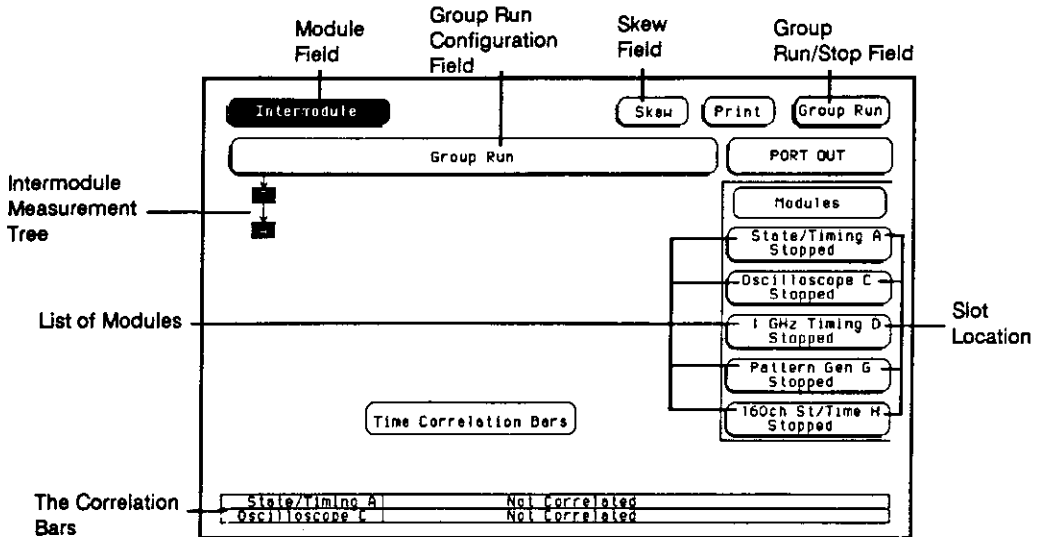

Figure 12-1. The Intermodule Menu
To bring up the **Intermodule** menu, touch the module field (**System**) in the upper-left corner of the display. When the pop-up appears, touch **Intermodule** to bring up the **Intermodule** menu (see figure 12-1).
1. You can set up modules to run independently or within an intermodule measurement. Initially, the intermodule configuration tree (see figure 12-1) is empty, with all the modules running independently. Intermodule measurements are configured by adding modules to the intermodule configuration tree. Modules that appear directly below the large **Group Run** field are armed immediately after the **Group Run/Stop** field in the upper-right corner is touched. Modules that appear below other modules are armed when the preceding module finds its trigger.